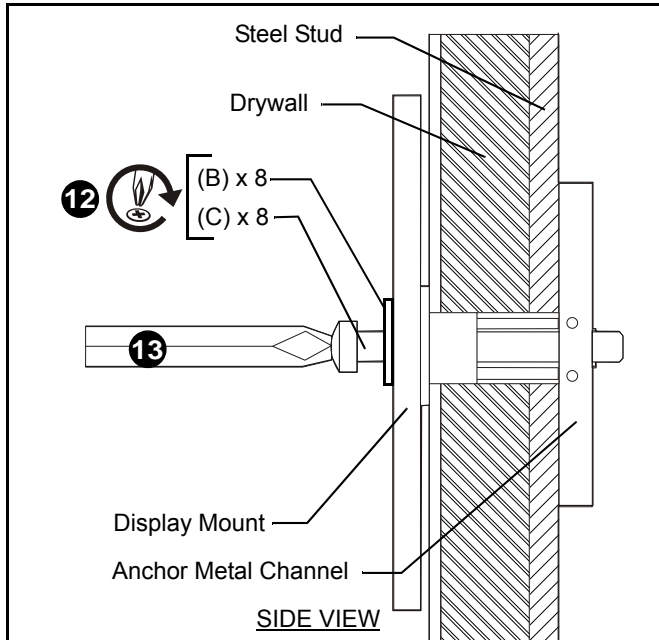

Figure 6
11. Place mount over anchors and align mounting holes in display mount with holes in anchors. (See Figure 6)
12. Place flat washer (B) onto Phillips pan head screws (C).
13. Insert Phillips pan head screws (C) with flat washer (B) through mounting hole in display mount and into anchor (D) and tighten until flush against mount. DO NOT overtighten! (See Figure 6)